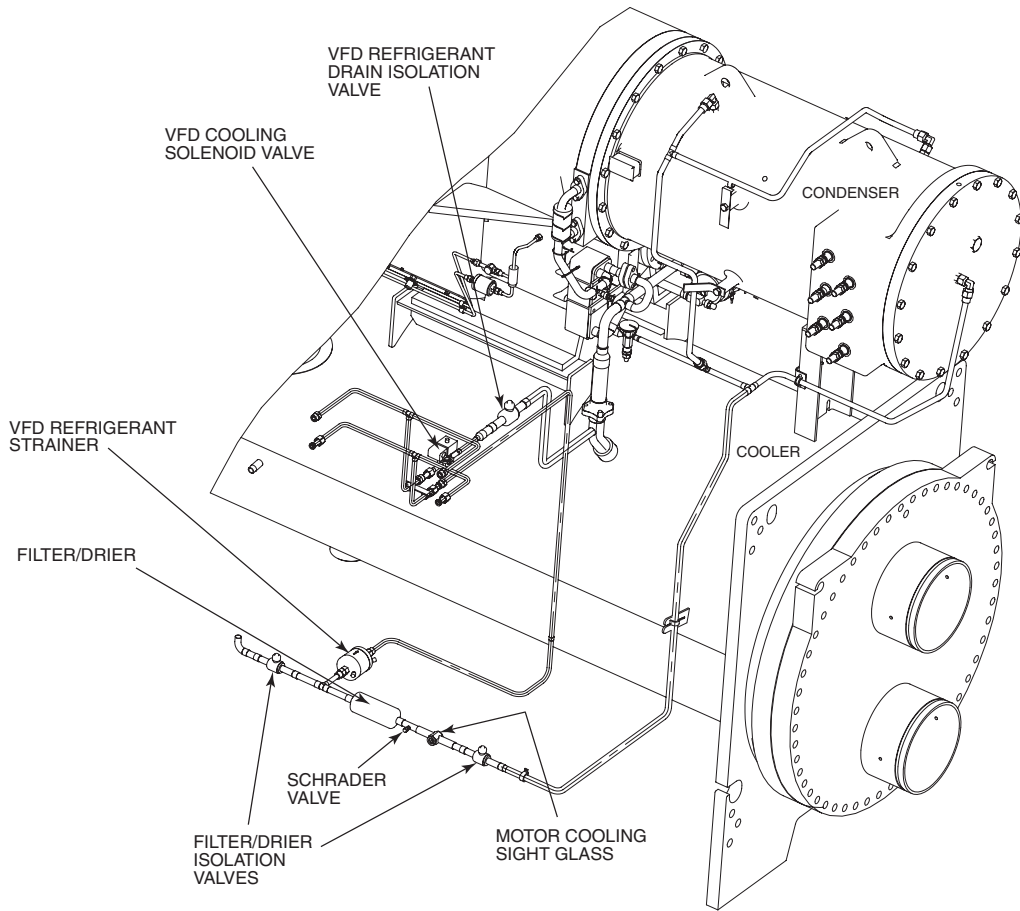

Fig. 13 — 900A or 1200A LF2 VFD or Standard Tier VFD (765, 855, 960, 1070, 1275, 1530A) Isolation Valves — Typical
1. Close the 2 filter drier isolation valves (Fig. 13) and the VFD refrigerant drain isolation valve. Evacuate the VFD coldplate through the Schrader valve (Fig. 13) next to the filter/drier.
9. Evacuate all piping between the VFD and the VFD isolation valves after assembly and tightening of VFD fittings. When dehydration/evacuation is complete, equalize VFD piping pressure with machine pressure if machine is charged with refrigerant. See Fig. 13.